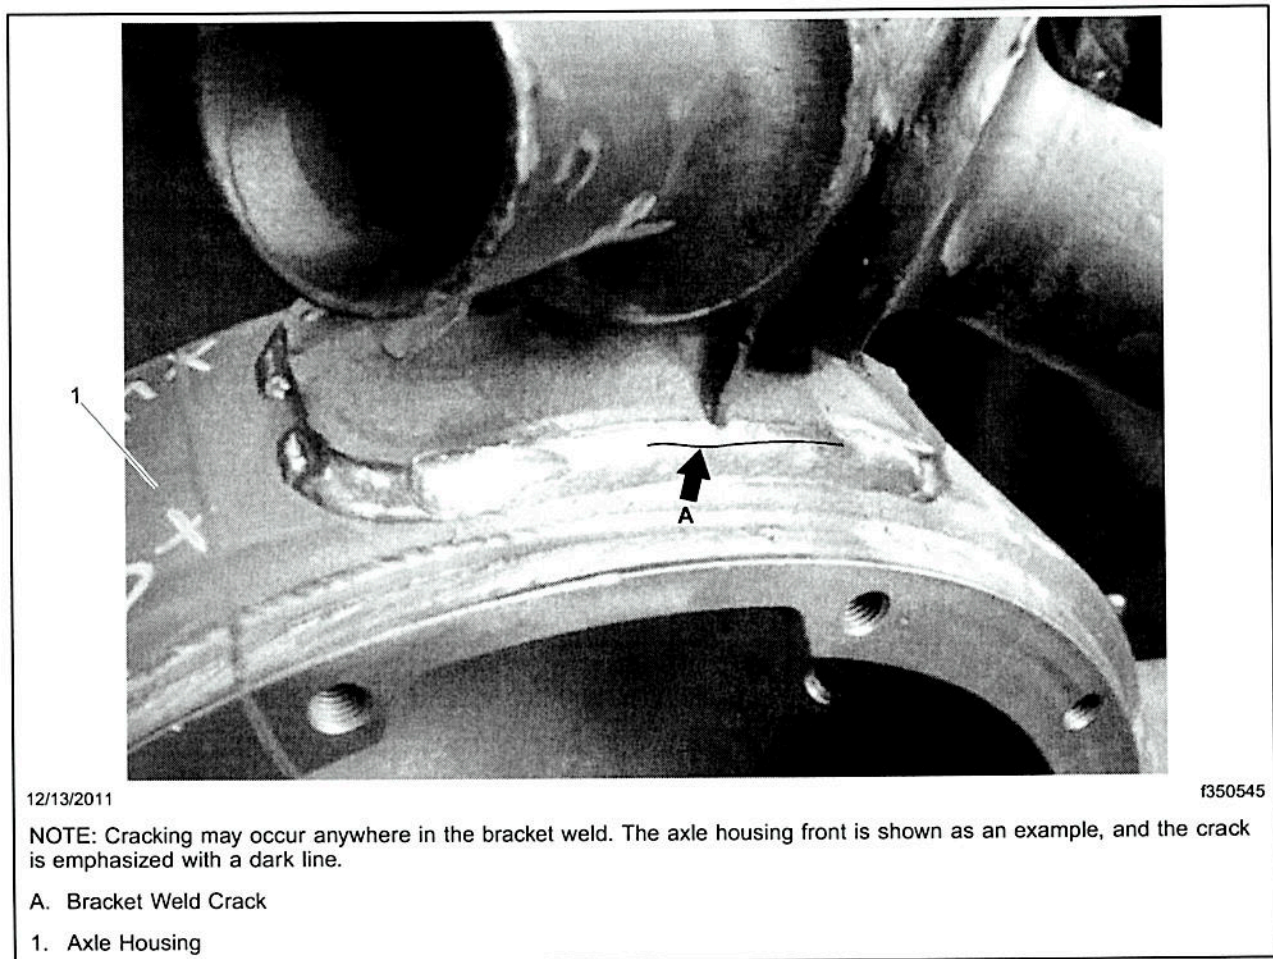

Fig. 1, Bracket Weld, Cracked
3. Clean the affected region around the tower bracket, front and back. Use a cleaning solvent and wire brush to remove dirt and grease. Visually inspect for cracks around the Chalmers tower bracket weld. See Fig. 1.